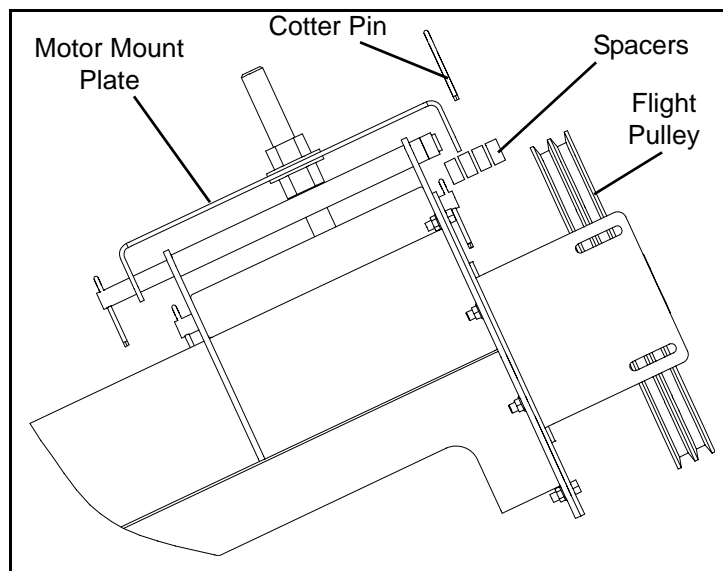

Figure 4K
2. Install pulley onto motor shaft making sure that it is aligned with the flight pulley. It may be necessary to move spacers to gain shaft alignment. (See Figure 4K).